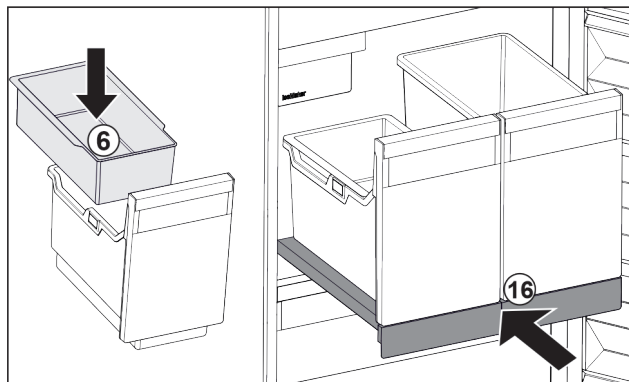

Fig. 32
- Insert hang-on tray Fig. 32 (6) for ice cubes.
- Slide in the pull-out board with (IceTower) container. Fig. 32 (16)